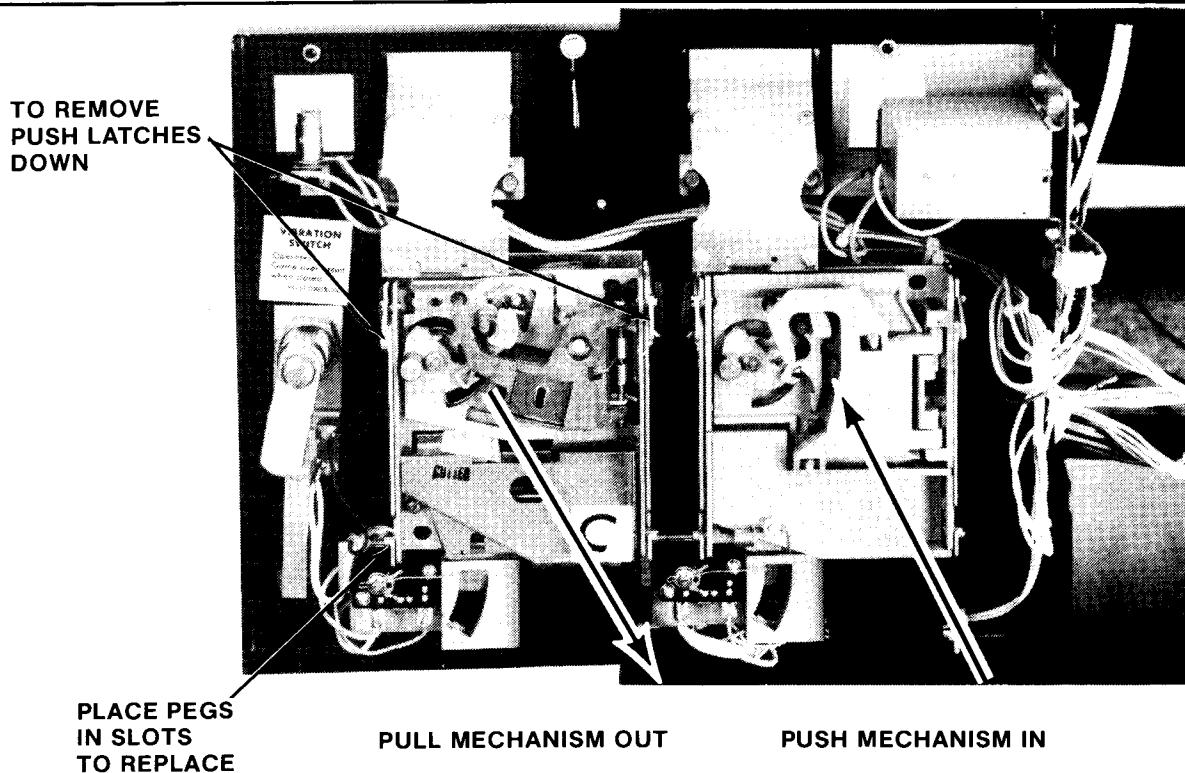

Figure 7-1 Removing and replacing coin acceptor
3. Remove the coin acceptor mechanism as shown in Figure 7-1.
- Reinstall the coin acceptor to the coin door. See Figure 7-1.
3. Remove the coin acceptor mechanism(s) as shown in Figure 7-1.